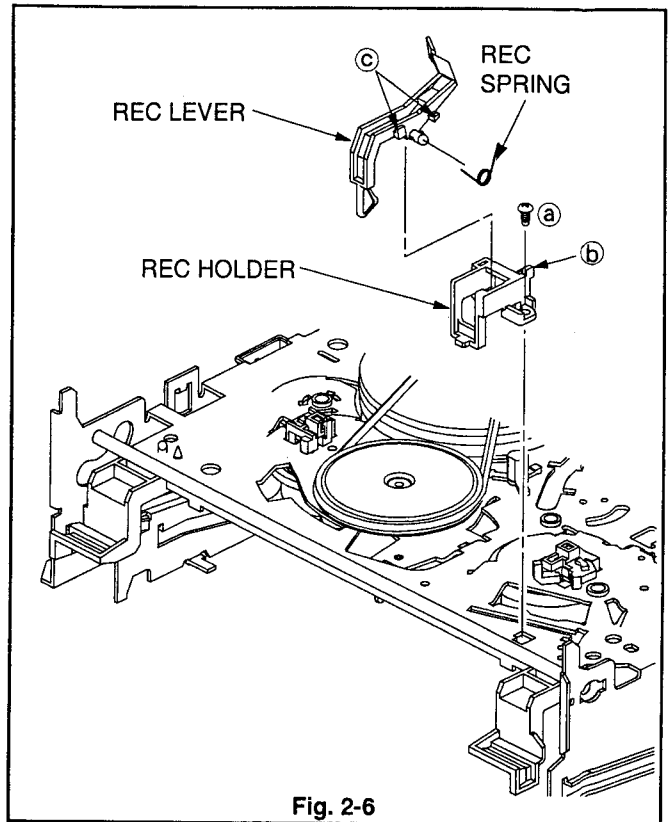

Fig. 2-6
1. Remove the screw (a) fastening the REC HOLDER shown in the Fig. 2-6 to remove the REC HOLDER.
2. Release the REC SPRING shown in the Fig. 2-6 from the catch (b) of the REC HOLDER to remove the REC LEVER.
3. Release the two catches (c) of the REC LEVER shown in the Fig. 2-6 to remove the REC SPRING.
1. Install the REC SPRING shown in the Fig. 2-6 to the REC LEVER and hook the REC SPRING to the catches (c).
2. Install the REC LEVER shown in the Fig. 2-6 to the REC HOLDER.
3. Hook the REC SPRING shown in the Fig. 2-6 to the catch (b).
4. Install the REC HOLDER shown in the Fig. 2-6.